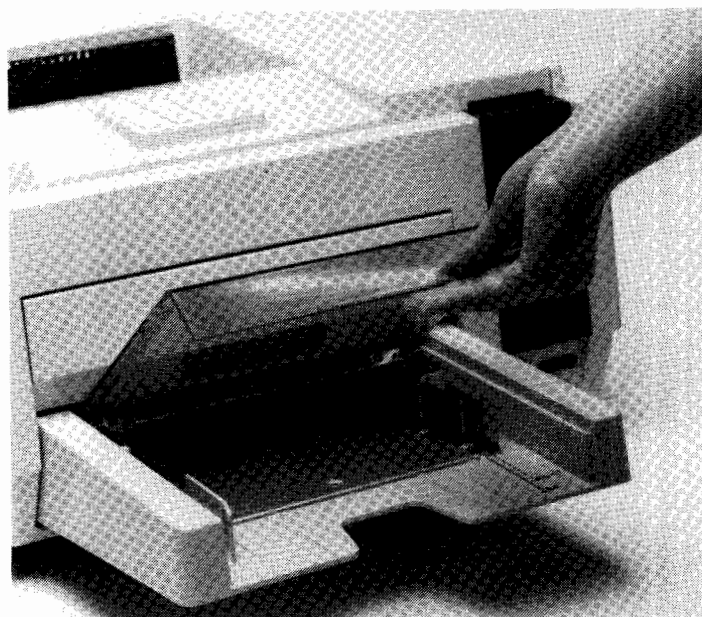

Figure 3-6. Paper Cover
- a. Open the paper tray cover (see figure 3-6).